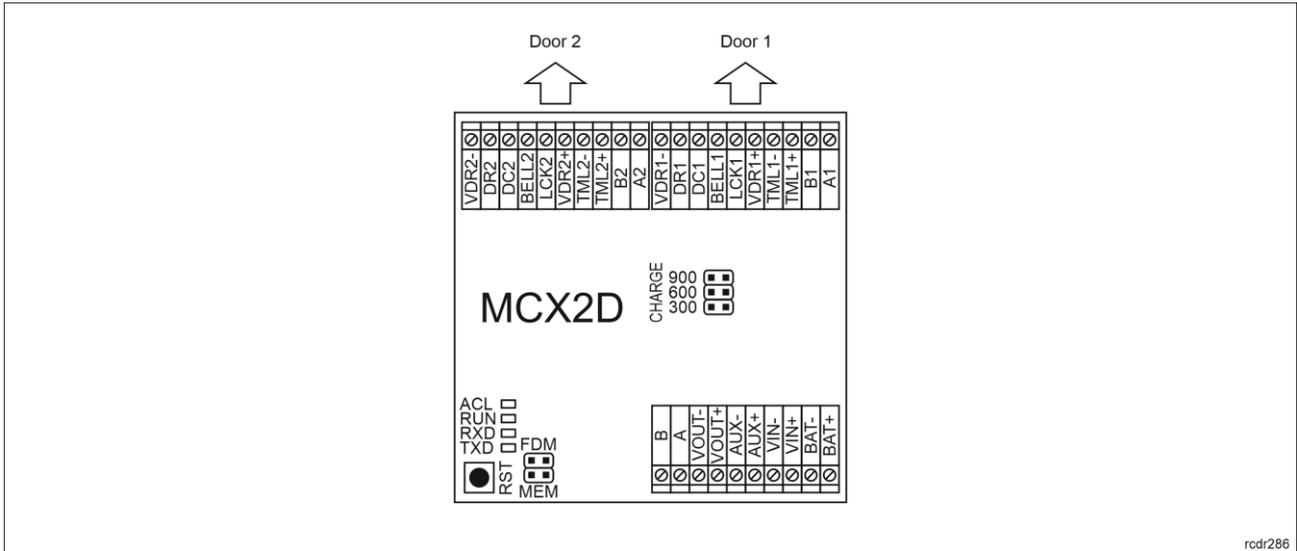

Fig. 2 MCX2D expander
MCX2D enables battery charging with 0.3A, 0.6A or 0.9A current up to the level of voltage supplied to the expander (nominal 13.8VDC). The current is selected with jumpers (fig. 2). When battery voltage drops to approximately 10V then it is disconnected from expander. The battery is reconnected when the 13.8V supply to expander is restored. In order to ensure battery charging up to 80% level within 24h (according to EN 60839 standard) following current settings must be applied:
2. Remove jumper from MEM contacts (fig. 2) if it is placed there.
2. Place jumper on MEM contacts (fig. 2).